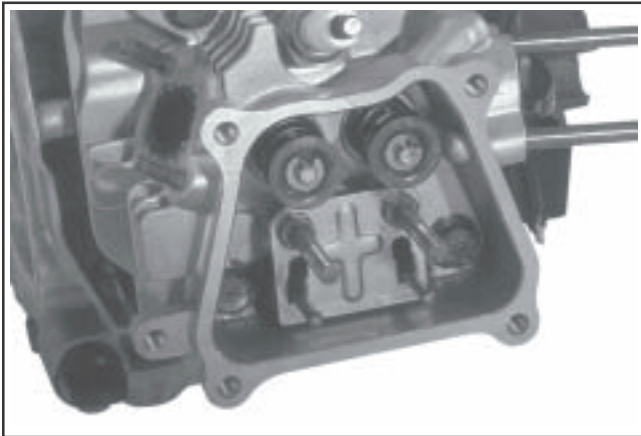

Figure 11-69. CS4, CS6, CS8.5 (spec. 95xxxx).
2. **CS4, CS6, CS8.5 (spec. 95xxxx):** Install the push rod guide plate, aligning the holes for the rocker arm studs. Screw in the rocker arm studs and torque to 10 N·m (88.5 in. lb.). See Figure 11-69.